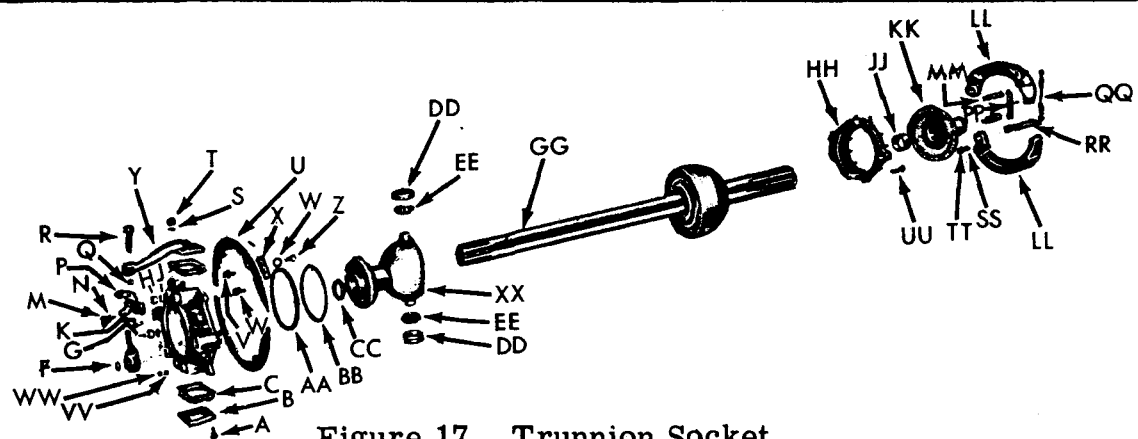
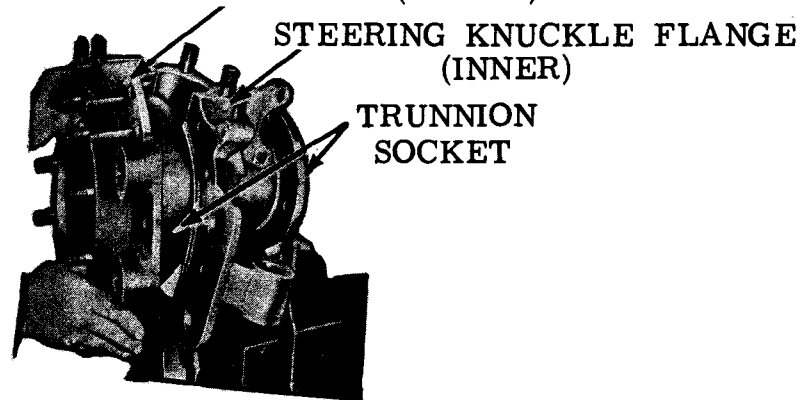

Figure 17. Trunnion Socket
Figure 21. Disassembling steering knuckle flange.
- f. Remove the nut (H, fig. 17) and lock washer (J) that attach each brake shoe anchor pin (MM) to the steering knuckle inner flange (D) and remove the anchor pins.
- h. Remove the cap screws (V, fig. 17) and lockwashers (W) that attach the brake dust shields (U) to the steering knuckle flange and remove the shields.
j. Remove the nuts (T, fig. 17) and lock washers (S) that attach the steering arm and upper bearing cap to the steering knuckle flange. Pry them off the steering knuckle flanges being careful not to damage the steering knuckle bearing cap shims (C). Tie the shim pack to the respective bearing cap or steering arm to facilitate bearing adjustment when assembling. Remove the steering cap screws (A) that attach the steering knuckle lower bearing caps (B) and steering knuckle bearing cap shims (C) to the steering knuckle flanges. Remove them in the same manner as the steering arm (fig. 20) and upper bearing cap.
k. Remove nut (WW, fig. 17), lock washers (VV), and bolts (UU) that secure the two halves of the steering knuckle flange. Tap the flanges with a soft hammer to separate the inner and outer halves as shown in figure 21.
e. Wheel Spindles (KK, fig. 17). Replace wheel spindle if it is bent, damaged or if threads are damaged beyond repair. If inner diameter of wheel spindle bearing (JJ) is more than 0.014 inch larger than the diameter of the bearing surface of universal joint outer race, bearing must be replaced (par. H).
f. Trunnion Socket (XX, fig. 17). Replace trunnion socket if broken, damaged or scored. Replace a trunnion socket bearing cone (par. H) if any of the rollers are missing, scored, corroded or pitted. Replace steering knuckle bearing cups (DD) that are cracked, pitted or scored.
g. Steering Knuckle Flange. Replace either half of the steering knuckle inner or outer flange (D, or HH, fig. 17) if cracked, scored, or damaged. Replace studs (par. H) that are broken or stripped.